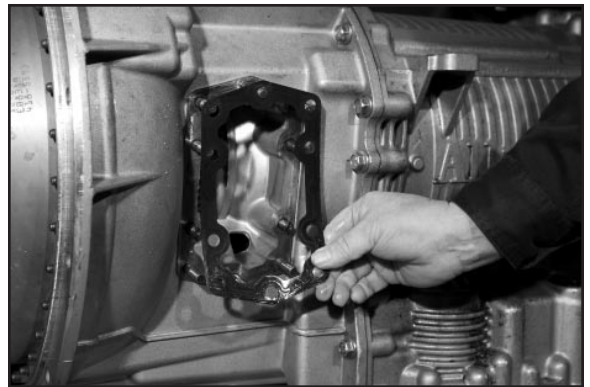

Fig. 9
9. Install the special gasket over the guide pins. The ribbed surface should face outward, toward the installer (**Fig. 9**).